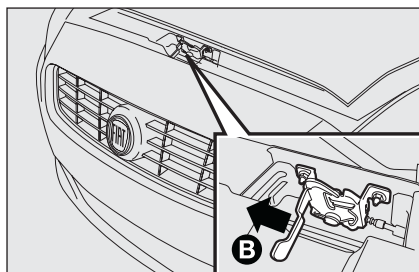

fig. 117
- insert your hand between bonnet and bumper and push the lever **B-fig. 117** to the left as shown;